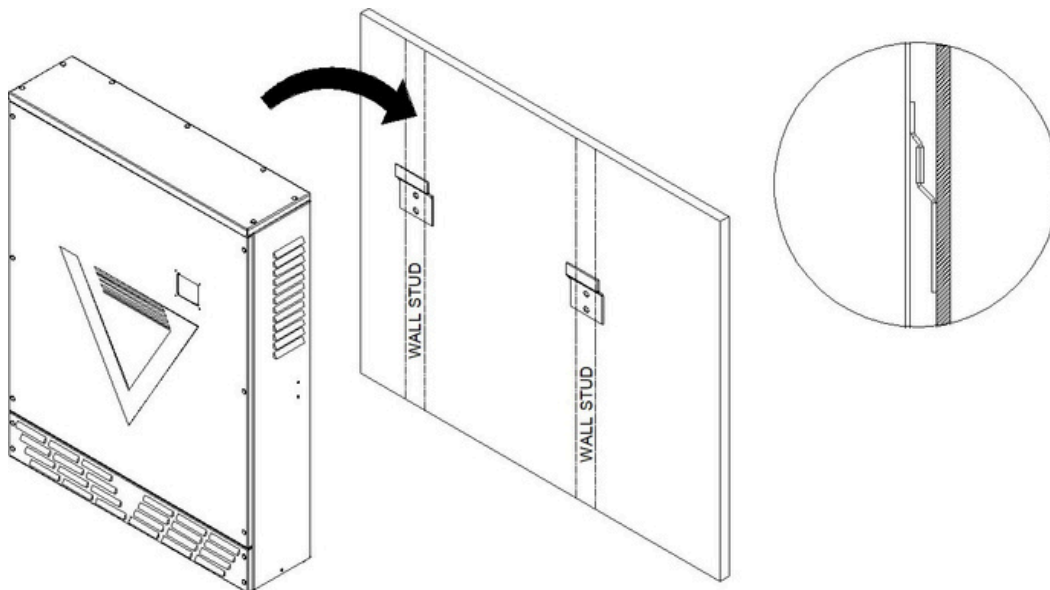

Figure 7
The NV14 Energy Storage System must be installed using the wall mounting brackets and hardware provided. The wall mounting brackets must be anchored to a minimum of two (2) vertical wall studs (See figure 7). 3/8" x 2 1/2" lag bolts with washers must be used to attach the wall mounting bracket to the vertical studs. This bracket is not intended to support the weight of the NV14 or NV24. Instead, it is intended to prevent a tip-over hazard.
The wall mounting brackets must be anchored to the vertical wall studs similar to the installation of the NV14 (See figure 7). 3/8" x 2 1/2" lag bolts with washers must be used to mount the wall mounting bracket to the vertical studs.